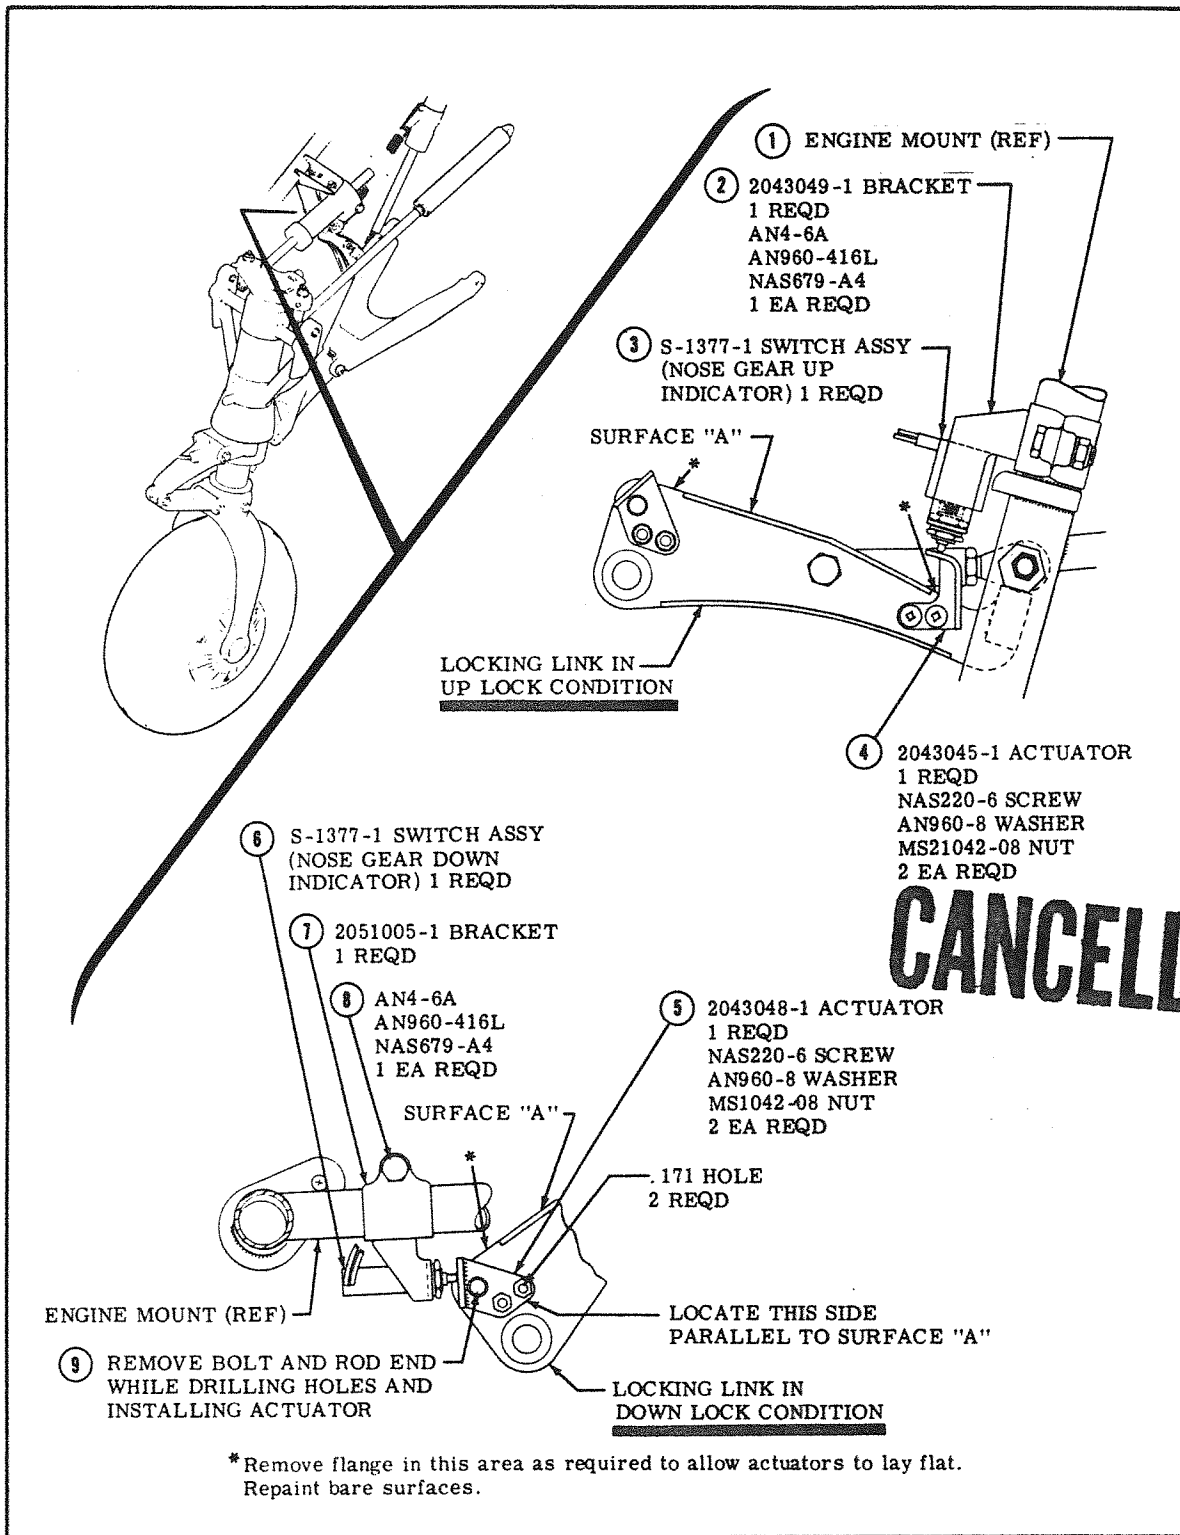

Figure 2. Nose Gear Up & Nose Gear Down Indicator Switches Installation
- d. (Refer to figure 2.) Replace nose gear sense switch and nose gear lock switch with nose gear up switch (3) and nose gear down switch (6) as follows:
- (1) Place the landing gear in the full down position.
- (2) Remove existing bracket and switch from the position to be occupied by bracket (7) and switch (6).
- (3) Remove bolt (9) and slide the rod end out of the way for the drilling operation which follows.
- (4) Using actuator (5) as a guide locate and drill two holes as shown.
- (5) Attach actuator (5) to link with screws, washers and nuts shown.